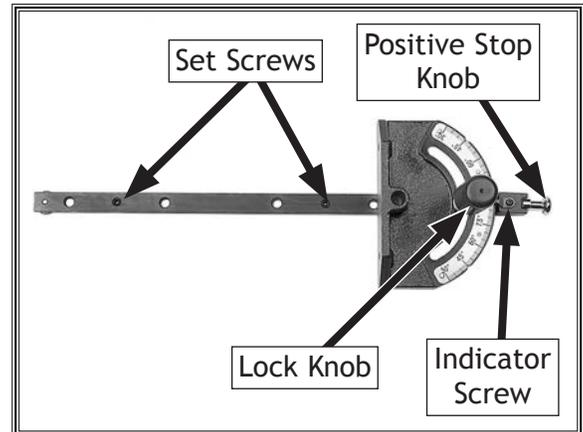

Figure 125. Set screws for adjusting miter bar in miter slot.
3. Loosen miter gauge lock knob, pull out positive stop knob, then pivot miter gauge body to 90° so stop knob springs into position (see **Figure 125**).
The miter bar can be adjusted so it fits more tightly in the miter slot. To adjust the miter bar tightness, adjust the set screws shown in **Figure 125** as needed. Bar should slide with little resistance.